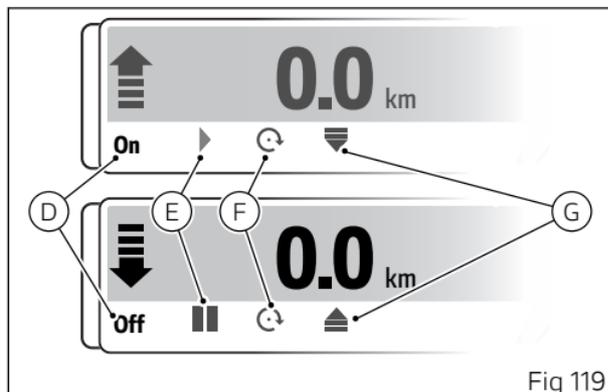

Fig 119
- On or Off to activate or deactivate the meter (D, Fig 119)
- ▶ play or || pause to start or stop the distance calculation (E, Fig 119)
- ↻ reset to reset the meter (F, Fig 119)
- ▲ incremental or ▼ differential to change the distance calculation mode (G, Fig 119)